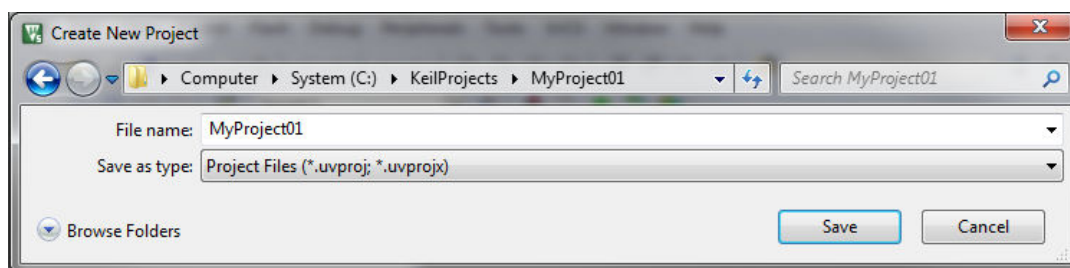

Figure 1-26. Create New Project dialog
3. Navigate to the folder where you want to create the project, for example C:\KeilProjects\MyProject01. Type the name of the project, for example MyProject01. Click Save. See Figure 1-26.